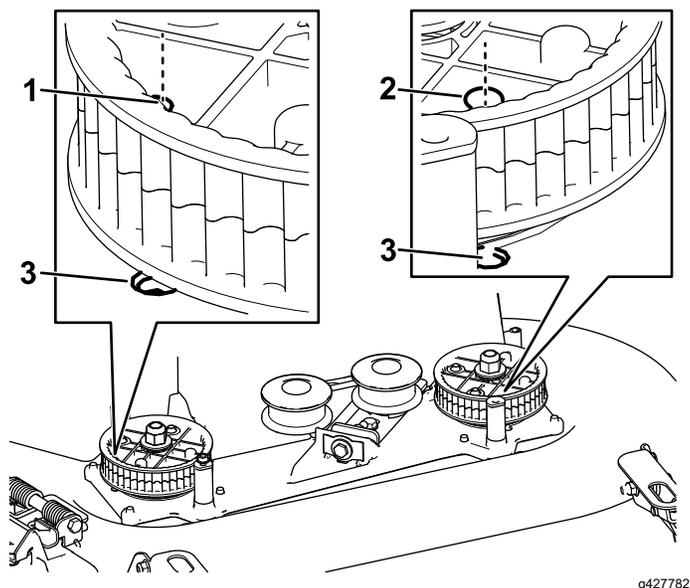

Figure 35
5. Align the holes in the right and left sprockets with the holes in the housing as shown in Figure 35.